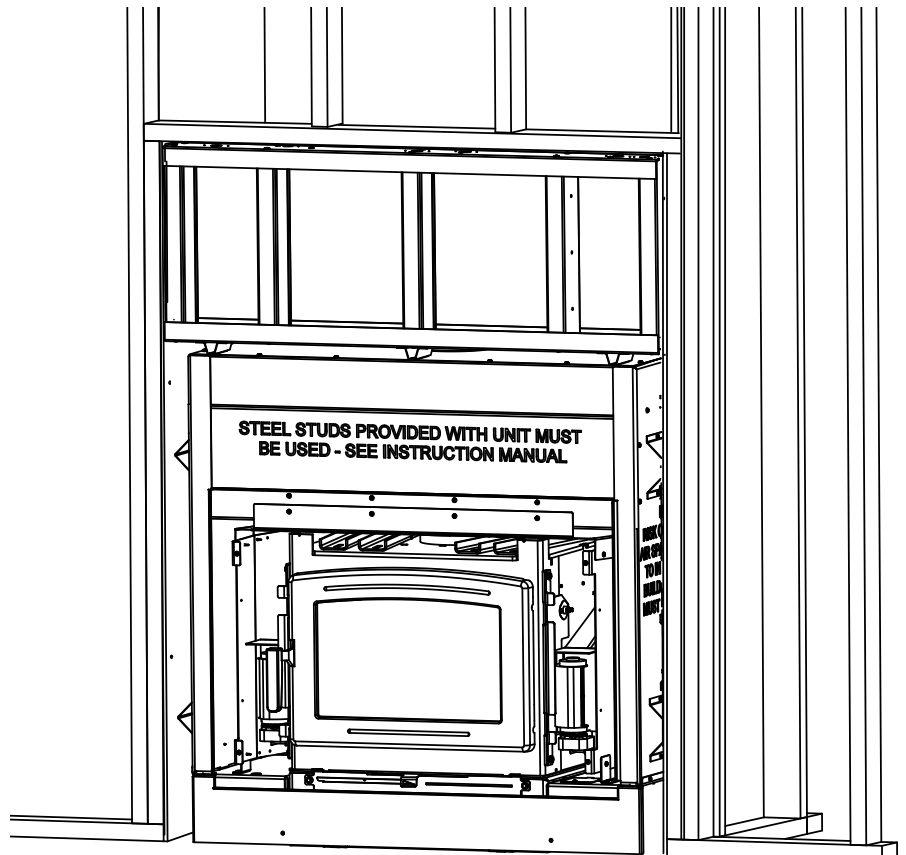

Figure 10: FP16 LE Chase with unit..
- Place the Steel Framing Kit on top of the unit with the legs down (Figure 10). Ensure the front edge is flush with the Fireplace and with the chase framing. It is very important to provide a flat surface to attach the outer non-combustible board to.